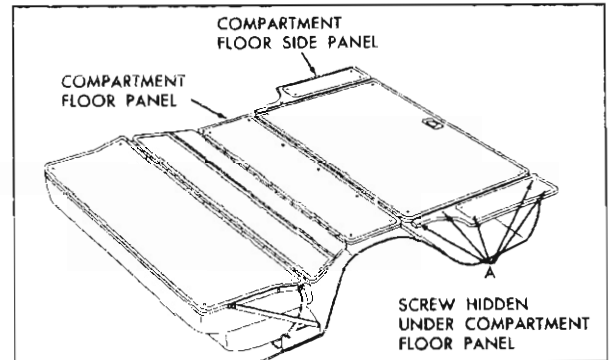

Fig. 17-10 Compartment Floor Side Panel Assembly (Right or Left)
2. Remove screws securing compartment floor side panel to side panel support as shown at "A", Fig. 17-10 and remove panel assembly from body.